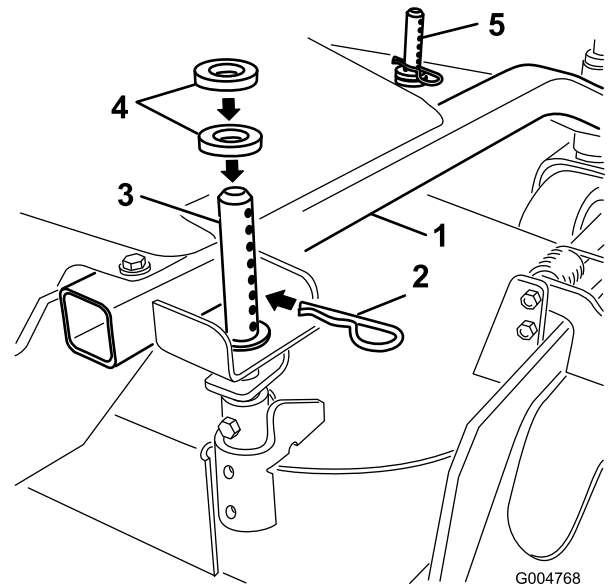

Figure 12
1. Select hole in height-of-cut post and number of spacers corresponding to the height-of-cut desired (Figure 12).
2. Using the lift handle, raise side of deck and remove hairpin cotter (Figure 12).
3. Add or remove spacers if needed and then align holes and insert hairpin cotter (Figure 12).